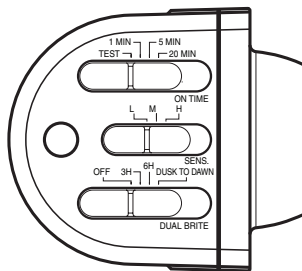

Figure 7
2. Slide the sensitivity (SENS) switch to the “L” position, the ON-TIME switch to the TEST position, and the DUALBRITE switch to the OFF position (see Figure 7).